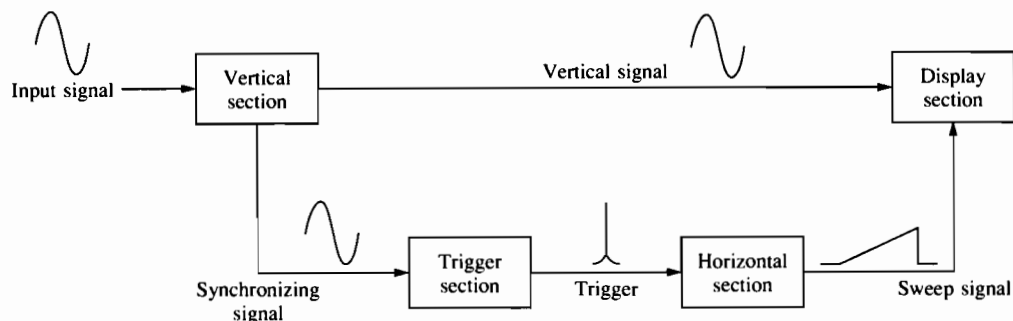

Figure 15–1
The oscilloscope is an extremely versatile instrument that lets you see a picture of the voltage in a circuit as a function of time. The voltage is converted to a visible display by a cathode-ray tube (CRT), a vacuum device similar to a television picture tube. The oscilloscope can be broken into four functional blocks, as illustrated in Figure 15–1. The input signal is coupled through a vertical section to a display section, causing the beam to move up and down as the input voltage moves up or down. A trigger section sends a signal to the horizontal section, causing the beam to move (or *sweep*) across the screen. This horizontal movement must be synchronized with the vertical signal to present a stable display.
5. In this step, you will observe an ac waveform on the other channel of your oscilloscope. Set the function generator for an ac waveform with a frequency of 500 Hz. If the function generator has a dc offset control, set it for zero offset. Adjust the amplitude for 1.0 V_{rms} as read on your DMM. Keep the SEC/DIV control at 0.5 ms/div and set the VOLTS/DIV to 0.5 V/div. Select CH2 and connect a second oscilloscope probe and its ground to the signal generator. The CH2 input COUPLING control should be in the DC position. Locate the trigger SOURCE control and select CH2 as the trigger channel. Adjust the CH2 vertical POSITION control and the trigger LEVEL control for a stable display near the center of the screen. You should observe approximately 2.5 cycles of an ac waveform with a peak-to-peak amplitude of 2.8 V. This represents 1.0 V_{rms} as shown in Figure 15–2.